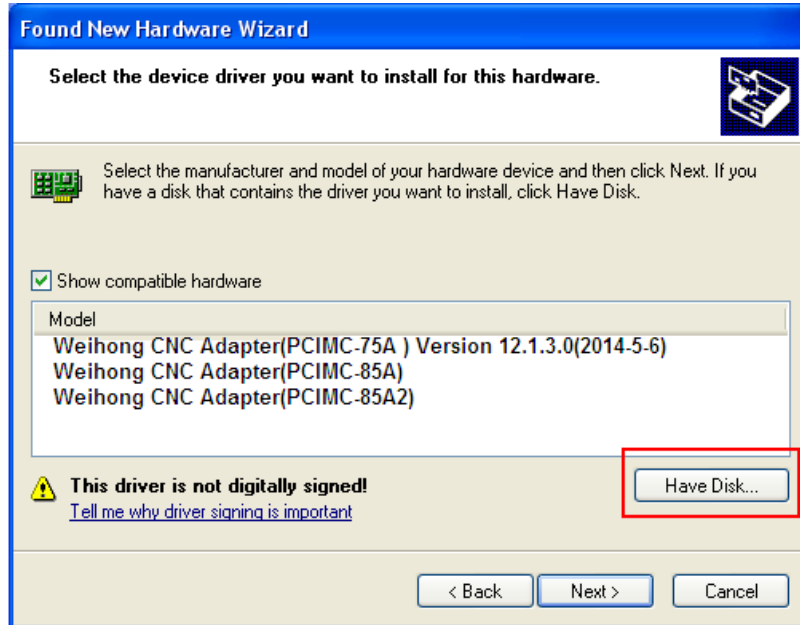

Fig. 1-10 Select the driver manually
- 4) A dialog box containing compatible hardware will pop up, as shown in Fig. 1-10, click [Have Disk...] button to open the next dialog box.